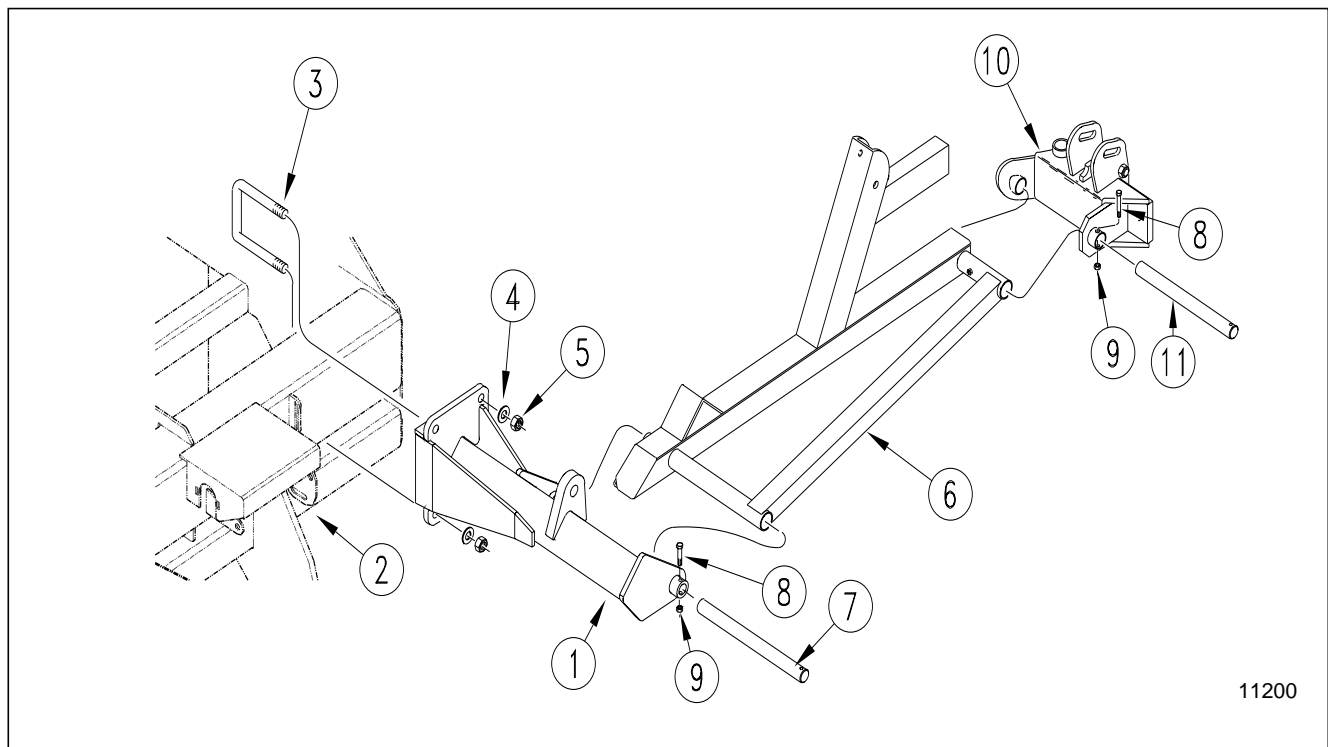

Fig. 1
3. Referring to Fig. 1, install the left hand marker mount (# 1) on the left box (# 2). The mount is fastened to the drill using two u-bolts (# 3), lock washers (# 4) and nuts (# 5). Install the first section of the marker (# 6) on the mount (# 1) by pushing the pivot shaft (# 7) through the pivot holes on the mount and the first section. Use the bolt (# 8) and lock nut (# 9) to retain the shaft in the mount.